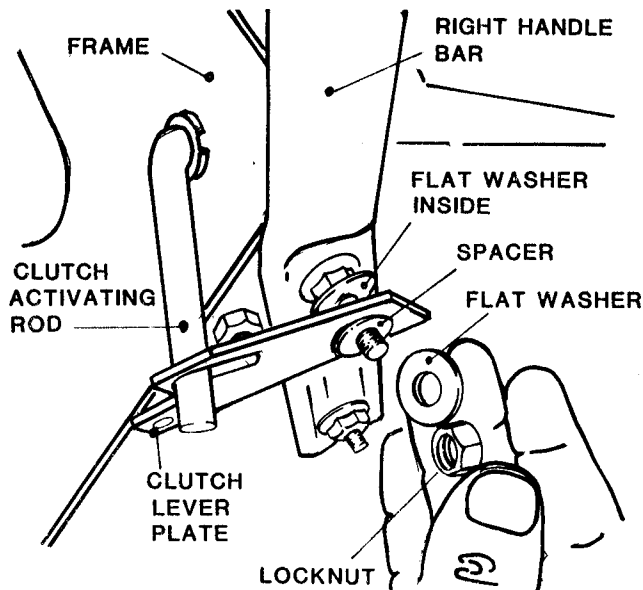

FIGURE 4.1 — LEVER PLATE RETAINING PARTS
**STEP 3 — BLOWER CLUTCH:** Place one 5/16" washer on upper right hand handle mounting stud, install spacer on stud, install clutch lever plate on spacer next with slot over the clutch activating rod, install another 5/16" washer on outside then secure with a 5/16-18 locknut. Refer to figure 4.1 for sequence. Connect one of the cables (two identical) with chain "S" hooked at top to the blower clutch control handle and the spring hooked through the small hole in the clutch handle lever. Adjust as needed by rehooking to different chain links until spring stretches 3/8" with handle depressed — cable must be slack when handle is released.